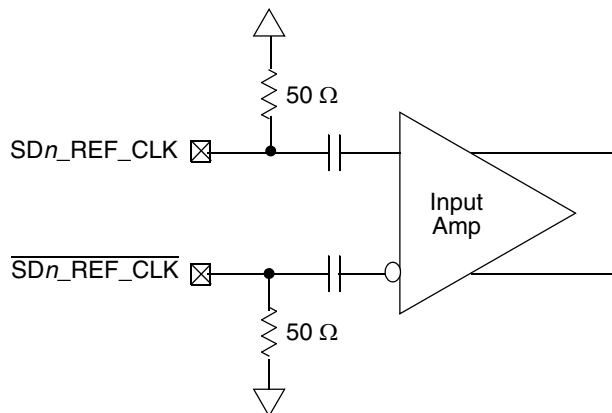

Figure 39. Receiver of SerDes Reference Clocks
- The SD_REF_CLK and $\overline{\text{SD_REF_CLK}}$ are internally AC-coupled differential inputs as shown in Figure 39. Each differential clock input (SD_REF_CLK or $\overline{\text{SD_REF_CLK}}$) has a 50- Ω termination to SGND followed by on-chip AC-coupling.